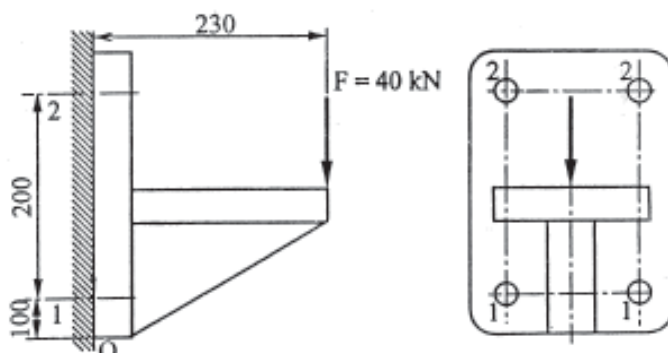

FIGURE 3 , QUE 5a
5. a) A bracket is subjected to a load of 40 kN as shown in Figure 3. If the permissible tensile strength is 50 MPa and the permissible shear strength is 30 MPa, determine the size of the bolts.